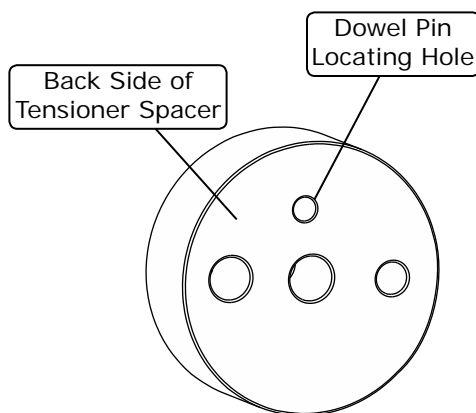

Figure 11a
2. Install the tensioner spacer onto the back side of the belt tensioner (See Figure 11b, below). **NOTE: Be sure to insert the dowel pin into the correct locating hole of the tensioner spacer (See Figure 11a, below). Tap the spacer onto the bracket if necessary.**